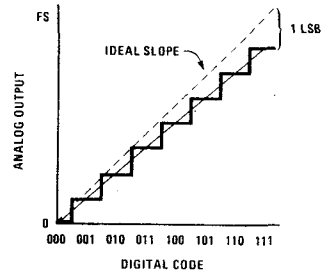
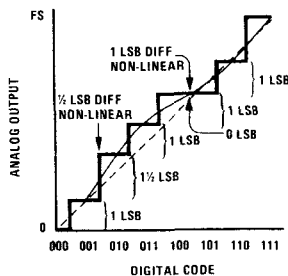
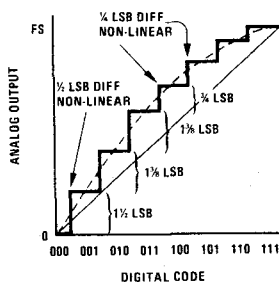
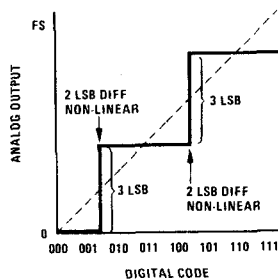

FIGURE 4. Linear, 1 LSB Scale Error
FIGURE 6.  $\pm\frac{1}{2}$  LSB Non-Linearity (Implies 1 LSB Possible Error), 1 LSB Differential Non-Linearity (Implies Monotonicity)
FIGURE 7.  $1\frac{1}{2}$  LSB Non-Linear,  $\frac{1}{2}$  LSB Differential Non-Linearity
FIGURE 8.  $\pm 1$  LSB Linear,  $\pm 2$  LSB Differential Non-Linear
**Scale Error** (full scale error) is the departure from design output voltage of a DAC for a given input code, usually full-scale code. (See figure 4.) In an ADC it is the departure of actual input voltage from design input voltage for a full-scale output code. Scale errors can be caused by errors in reference voltage, ladder resistor values, or amplifier gain, *et. al.* (See **Temperature Coefficient**.) Scale errors may be corrected by adjusting output amplifier gain or reference voltage. If the transfer curve resembles that of figure 7, a scale adjustment at  $\frac{1}{3}$  scale could improve the overall  $\pm$  accuracy compared to an adjustment at full scale.
Figure 6 shows a 3-bit DAC transfer curve with no more than  $\pm\frac{1}{2}$  LSB non-linearity, yet one step shown is of zero amplitude. This is within the specification, as the maximum deviation from the ideal straight line is  $\pm 1$  LSB ( $\frac{1}{2}$  LSB resolution error plus  $\frac{1}{2}$  LSB non-linearity). With any linearity error, there is a differential non-linearity (see below). A  $\pm\frac{1}{2}$  LSB linearity spec guarantees monotonicity (see below) and  $\leq \pm 1$  LSB differential non-linearity (see below). In the example of figure 6, the code transition from 100 to 101 is the worst possible non-linearity, being the transition from 1 LSB high at code 100 to 1 LSB low at 110. Any fractional non-linearity beyond  $\pm\frac{1}{2}$  LSB will allow for a non-monotonic transfer curve. Figure 7 shows a typical non-linear curve; non-linearity is  $1\frac{1}{2}$  LSB yet the curve is smooth and monotonic.
**Differential Non-Linearity** indicates the difference between actual analog voltage change and the ideal (1 LSB) voltage change at any code change of a DAC. For example, a DAC with a 1.5 LSB step at a code change would be said to exhibit  $\frac{1}{2}$  LSB differential non-linearity (see figures 6 and 7). Differential non-linearity may be expressed in fractional bits or in % FS.
Differential linearity specs are just as important as linearity specs because the apparent quality of a converter curve can be significantly affected by differential non-linearity even though the linearity spec is good. Figure 6 shows a curve with a  $\pm\frac{1}{2}$  LSB linearity and  $\pm 1$  LSB differential non-linearity while figure 7 shows a curve with  $+1\frac{1}{2}$  LSB linearity and  $\pm\frac{1}{2}$  LSB differential non-linearity. In many user applications, the curve of figure 7 would be preferred over that of figure 6 because the curve is smoother. The differential non-linearity spec describes the smoothness of a curve; therefore it is of great importance to the user. A gross example of differential non-linearity is shown in figure 8 where the linearity spec is  $\pm 1$  LSB and the differential linearity spec is  $\pm 2$  LSB. The effect is to allow a transfer curve with grossly degraded resolution; the normal 8-step curve is reduced to 3 steps in figure 8. Similarly, a 16-step curve (4-bit converter) with only 2 LSB differential non-linearity could be reduced to 6 steps (a 2.6-bit converter?). The real message is, "Beware of the specs." Do not ignore or omit differential linearity characteristics on a converter unless the linearity spec is tight enough to guarantee the desired differential linearity. As this characteristic is impractical to measure on a production basis, it is rarely, if ever, specified, and linearity is the primary specified parameter. Differential non-linearity can always be as much as twice the non-linearity, but no more.